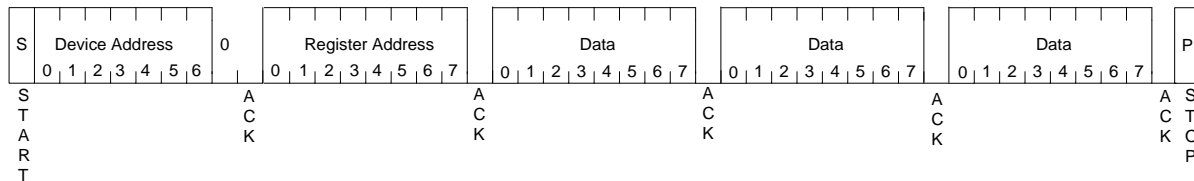

Figure 20: I2C Bus 3-byte Data Write
Following the START (S) condition from the master, the device address (7-bits) and the R/W bit (logic low for write) are clocked onto the bus by the master. This indicates to the addressed slave receiver that the register address will follow after it has generated an acknowledge bit (A) during the ninth clock cycle. Therefore, the next byte transmitted by the master is the register address and will be written into the address pointer of the 78M6610+PSU. After receiving another acknowledge (A) signal from the 78M6610+PSU the master device will transmit the data byte(s) to be written into the addressed memory location. The data transfer ends when the master generates a stop (P) condition. This initiates the internal write cycle. The example in Figure 20 shows a 3-byte data write (24-bit register write).